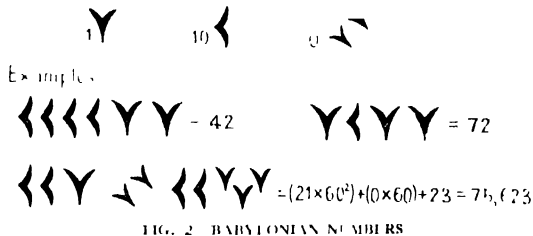

FIG. 2. BABYLONIAN NUMBERS
2. PLACE NOTATION. In the valleys of Mesopotamia, where the SUMERIANS and later the BABYLONIANS (*qq.v.* Vol. I) developed the other great early civilization, a similar system was used at first. But soon a more powerful one was developed (*see* Fig. 2). Like the Egyptians, the people of Babylon used separate signs for 'one' and 'ten', and made use of repetition to express numbers like 42 (four signs for 'ten' and two
3. INVENTION OF ZERO. For a long time this system was marred by the fact that the Babylonians had no sign for zero. It was as if we did not have the figure 0, and so could not be sure whether 2 3 was really 23, or 203, or 2,003. The invention of a sign for zero is often regarded as the greatest single step in mathematical history. The Babylonians invented it some time after 1000 B.C. Fig. 2 shows how it was used. The separate groups there would mean 21, 0, and 23 respectively. In view of the positional notation, the whole number means 21 times 60 times 60, added to nought times 60, added to 23. That makes 75,623.